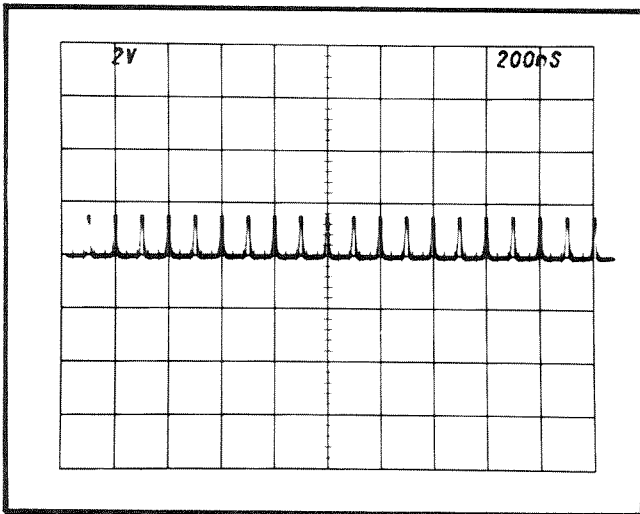

Fig. 5-9. CRT display showing correct 0.2 μ s timing.
23. Check/Adjust .2 μ s Timing (C530L) ①
- c. CHECK—CRT display for two markers each division over the center eight divisions. Check that sweep timing is within 0.16 division (2%) over center eight divisions. See Fig. 5-9.